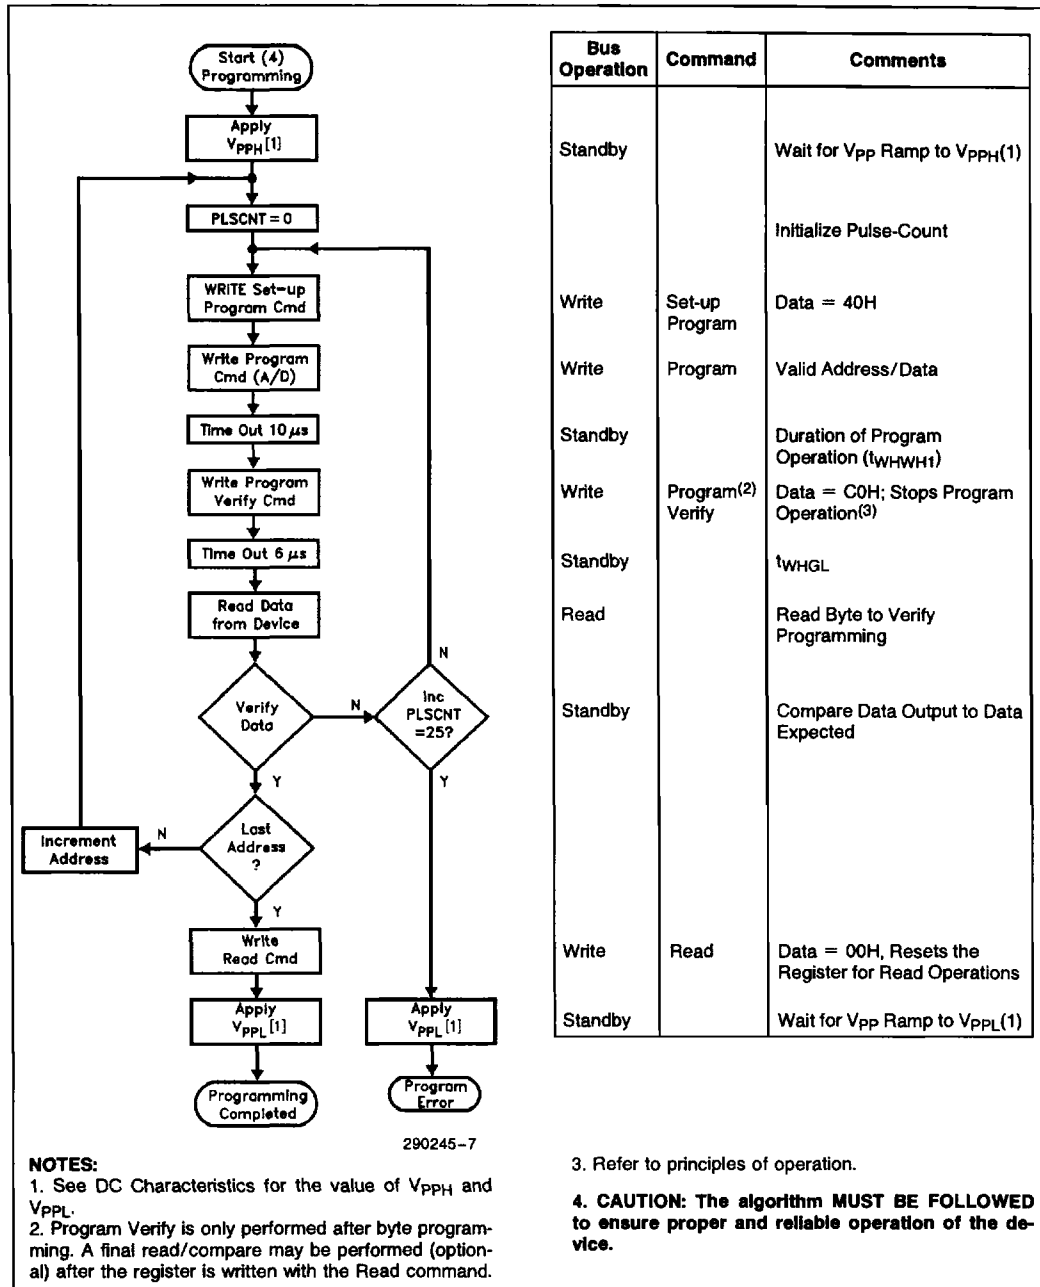

Figure 4. 28F020 Quick-Pulse Programming Algorithm
6. Figure 4 illustrates the Quick-Pulse Programming Algorithm.
The 28F020 applies an internally-generated margin voltage to the byte. A microprocessor read cycle outputs the data. A successful comparison between the programmed byte and true data means that the byte is successfully programmed. Programming then proceeds to the next desired byte location. Figure 4, the 28F020 Quick-Pulse Programming algorithm, illustrates how commands are combined with bus operations to perform byte programming. Refer to AC Programming Characteristics and Waveforms for specific timing parameters.
The Quick-Pulse Programming algorithm uses programming operations of 10 μ s duration. Each operation is followed by a byte verification to determine when the addressed byte has been successfully programmed. The algorithm allows for up to 25 programming operations per byte, although most bytes verify on the first or second operation. The entire sequence of programming and byte verification is performed with V_{PP} at high voltage. Figure 4 illustrates the Quick-Pulse Programming algorithm.